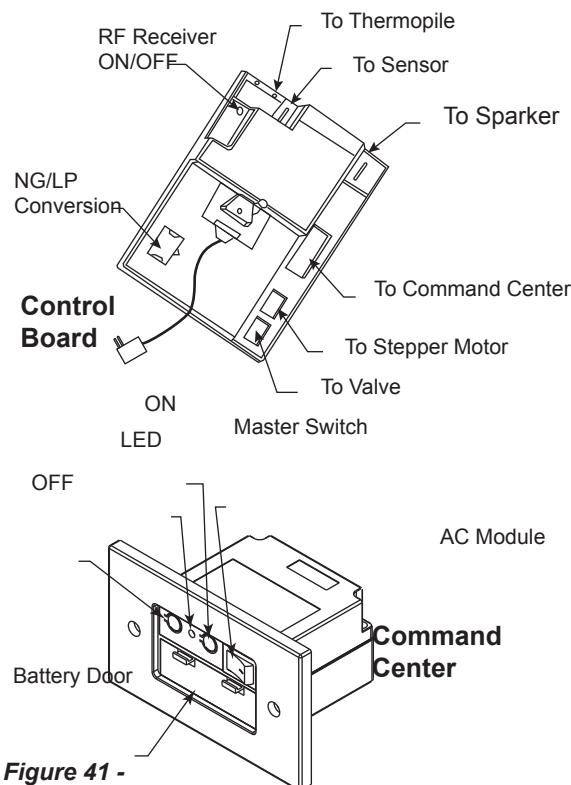

Figure 41 -
1. The RF receiver button located on the Control Board must be in the on position before the learn function can begin. Use paper clip to depress button. One beep for RF receiver ON or two beeps for RF receiver OFF will be given as confirmation. Refer to *Figure 41* for location.